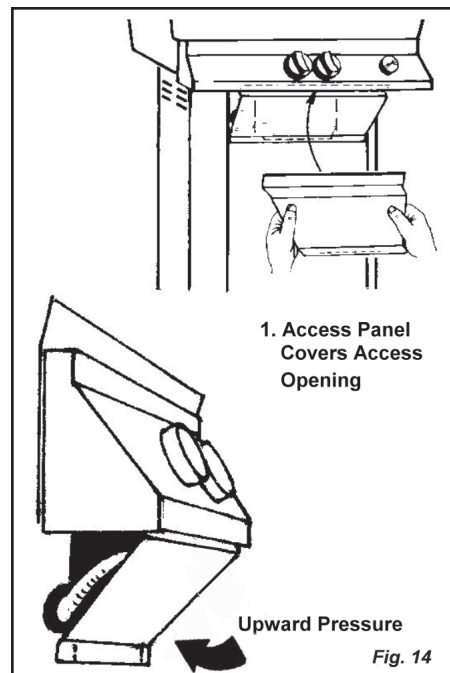

Fig. 14
Step 4: Attaching the Access Panel (Fig. 14)
Then the built-in mounting heat shield must be attached to the bottom of the grill head using four 1/4-20 x 3/4" bolts, see *fig. 14* "Complete View" illustration.